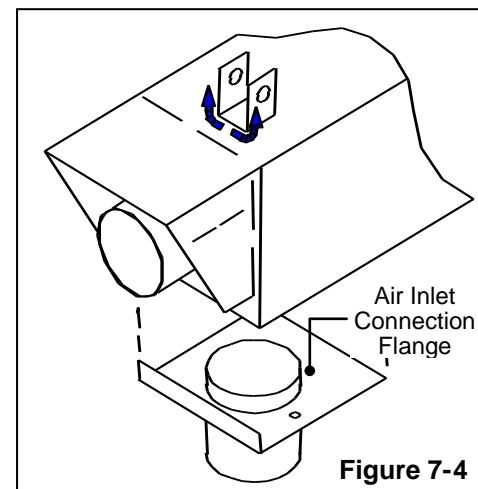

Figure 7-4
- Bend Bracket Support** - Using a screwdriver, bend up the support bracket located on the top of the unit as shown in Figure 7-4.
- Air Inlet Connections** - Using the screws provided, attach the air inlet connection flange to the bottom of the vent terminal. Figure 7-4.